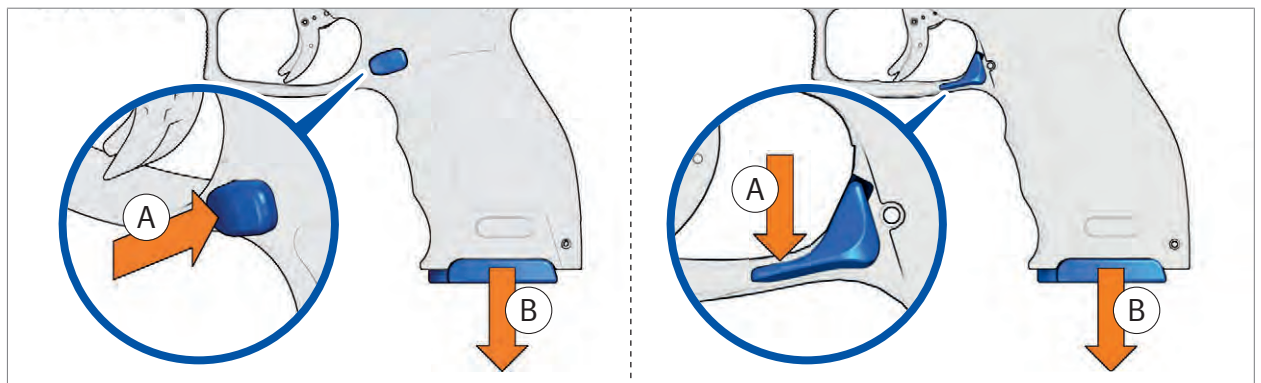

Fig. 46: Remove magazine
2. Press magazine catch (*Fig. 46*).
3. Remove magazine (*Fig. 46*).